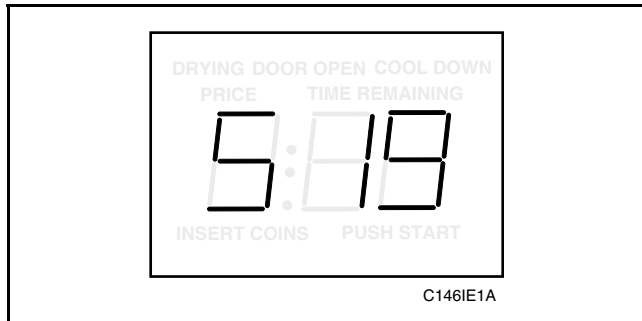

Figure 73
2. While pressing and holding the HIGH TEMP pad with one hand, press the MED TEMP pad with the other hand. Programmable option number 1, (Audio Signal “SIg”), will appear in the VFD, *Figure 73*.